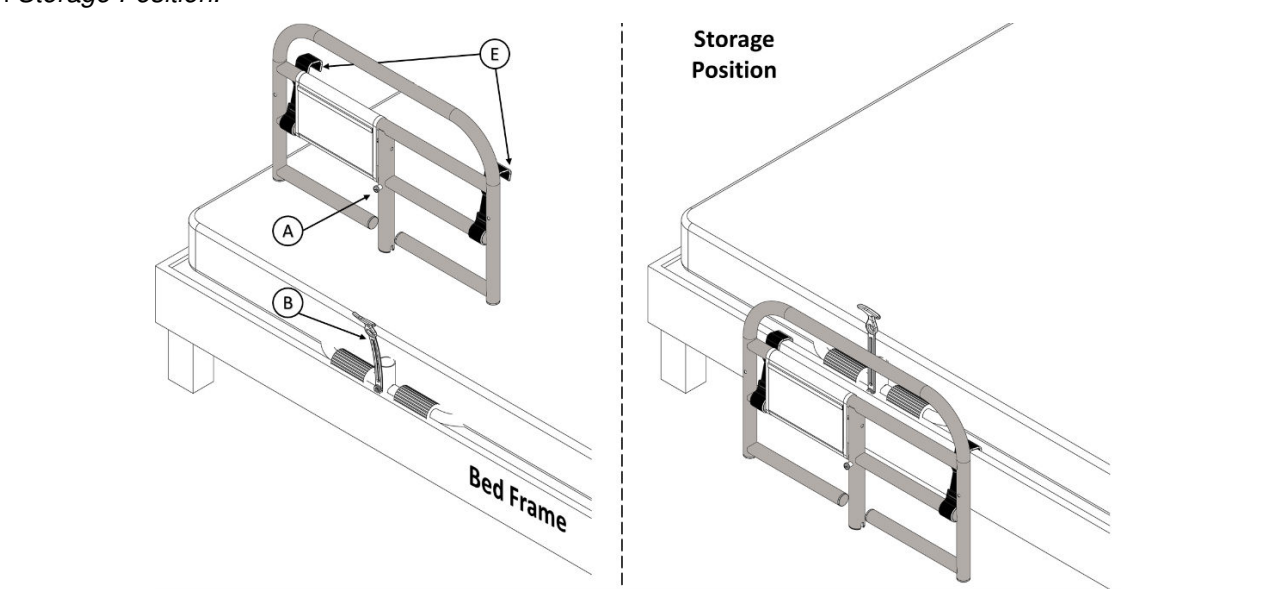

FIGURE 5
5. For storage, remove **B** from **A** and place **E** on the **Bed Frame** as shown in *FIGURE 5*. **DO NOT** use rail assembly when in *Storage Position*.